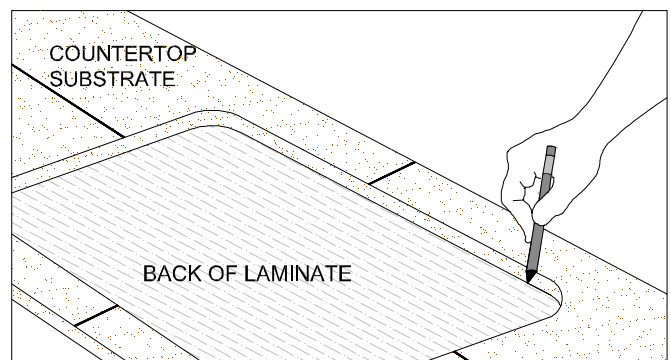

Figure 14D
- With a pencil, trace the inside perimeter of cutout onto the back side of the laminate to be bonded. (FIG. 14D)